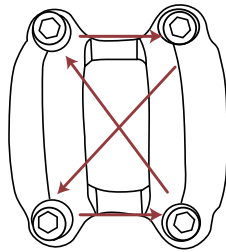

Figure 1
- It is important to tighten stem faceplate bolts gradually and evenly. Tighten down the stem faceplate bolts using an "X" pattern to secure the bolts (see figure 1)